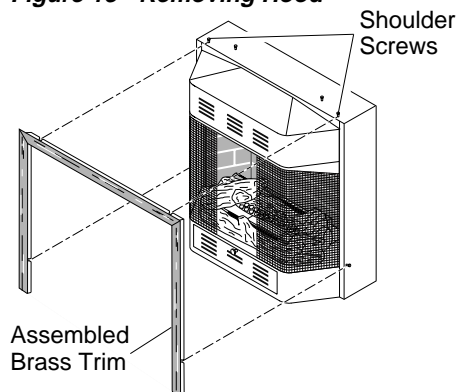

Figure 14 - Attaching Brass Trim to Fireplace
4. Place brass trim on the shoulder screws located on the side and top of the fireplace. Firmly snap the brass trim over the shoulder screws on fireplace (see Figure 14).